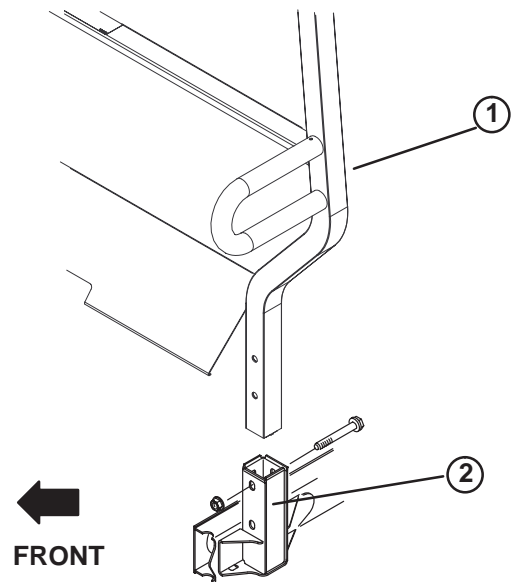

Figure 4
1. Insert each side of ROPS into mounting bracket on each side of vehicle frame, positioning ROPS as shown in figure 4.
2. Secure each side of ROPS to mounting brackets with (2) 1/2–13 x 3" lg. capscrews and locknuts.